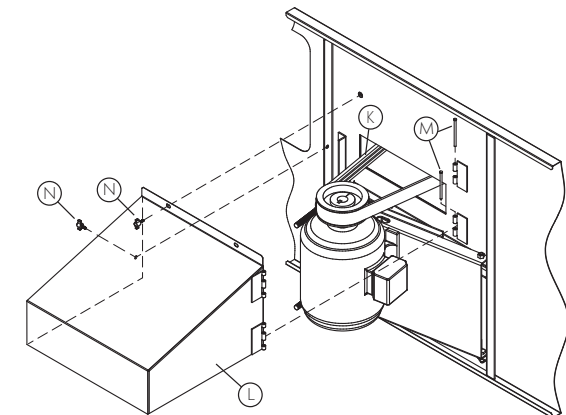

Figure 32 – Motor Guard and Powerband Belt Installation
7. Install Powerband belt K (Figure 32) around fan sheave and motor sheave. Tighten belt by adjusting nuts on "J" bolts. Do not over-tighten the belts. The center of the belt should deflect approximately 3/4" with moderate hand pressure.
10. To install Motor Guard L, match up hinges and install hinge pins M. (See Figure 32.)
11. Close Motor Guard and install (2) wing bolts N.